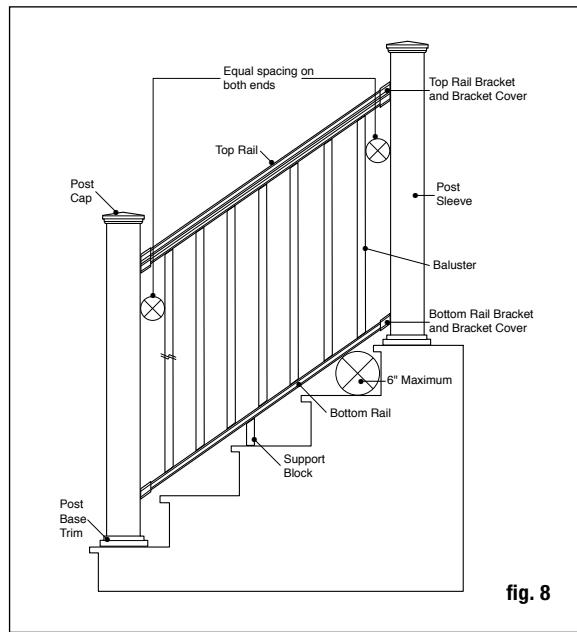
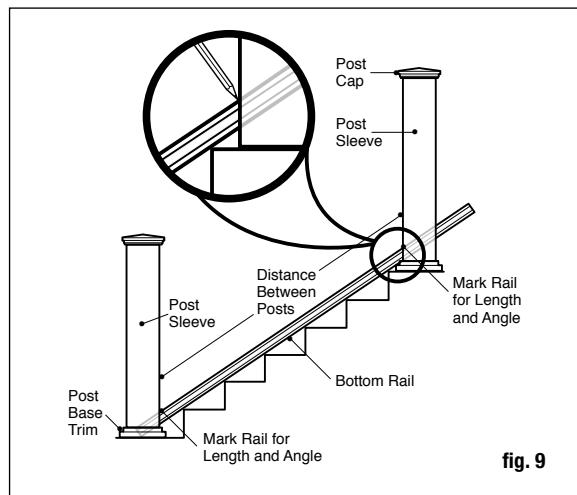

fig. 8
fig. 9
Step 6 Measure the distance between installed post sleeves to determine the length of the top and bottom rails. Place the bottom rail on the stair treads next to the posts and adjust so the distance between the first baluster hole and post is greater than 2-3/4" minimum and equal on both ends (fig. 8). Mark the rail to the proper length and angle. Cut the bottom rail. Cut the top rail to the same length and angle (fig. 9).
Step 7 Place the proper rail bracket covers and stair brackets on the ends of the bottom rail. Pay particular attention to the brackets being used as they differ based on top/bottom rail and up/down angle. Determine the position of the support block and attach to the bottom rail. Prop the bottom rail between the posts on the stair treads (fig. 9). You may need to place equal shims between two stair tread noses to elevate the bottom rail. Check for requirements in your area. Typically, a 6" sphere may not be allowed to pass through the triangle formed by the bottom rail, tread and riser (fig. 8). Center the stair bracket on the post. Using the stair bracket as a guide, mark the screw positions on the post sleeve and rail on both ends. Pre-drill 1/8" pilot holes through the post sleeve and rail on both ends. Attach the stair bracket to the post sleeve using the #8-15 x 2" - #2 square drive flat head screws and then attach stair bracket to rail using #8-16 x 3/4" - #1 square drive wafer head self-drilling screws.